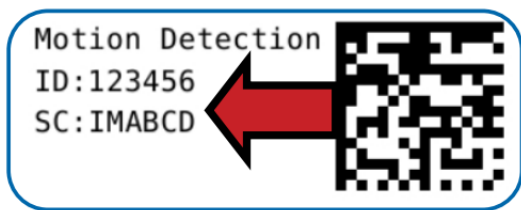

Figure 1
2. **Find the Device ID. See Figure 1.**